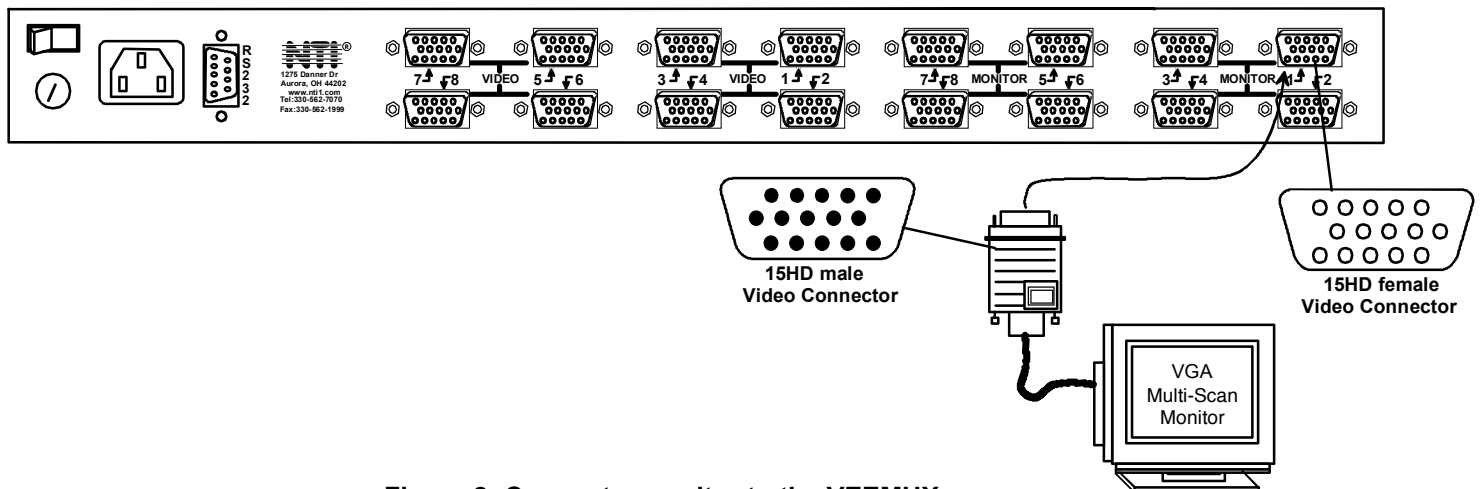

Figure 2- Connect a monitor to the VEEMUX
4. Connect a monitor to the 15HD female connector labeled MONITOR 1 on the rear of the VEEMUX (See Fig. 2).